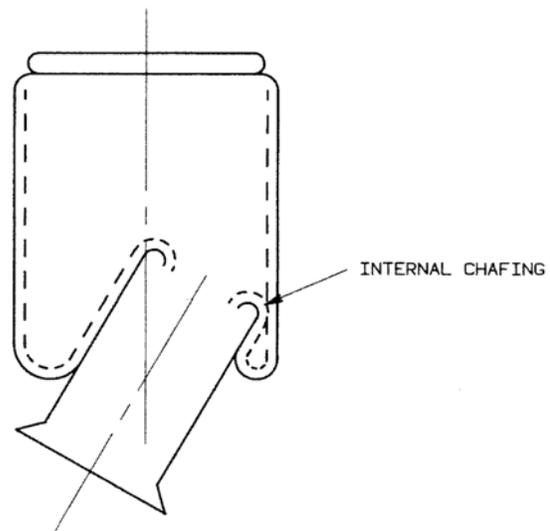

Fig. 6.1 Low pressure and internal chafing
**9. Interference**-Avoid situations where springs rub or nearly rub against anything. This also includes rubbing against themselves. Low operating pressures increase the chance that internal chafing may occur (see Fig. 6.1).